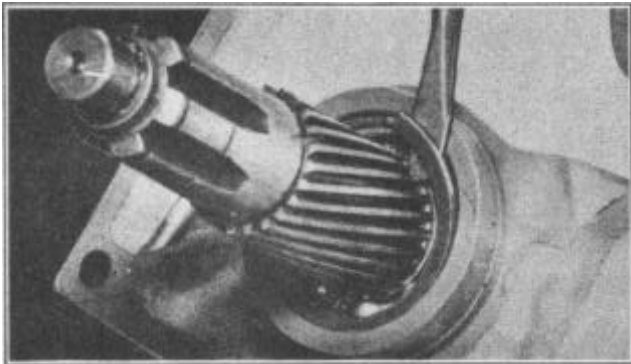

FIGURE 8
1. Remove the mainshaft rear bearing snap ring, Figure 8.